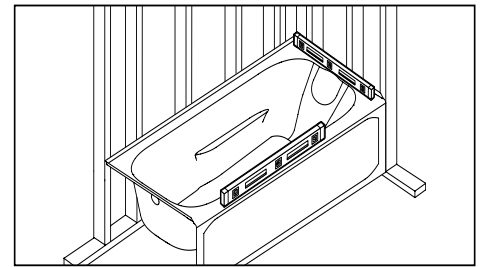

FIGURE 1. Check to assure bathtub is level.
- a. Trial fit bathtub in prepared alcove. With bathtub sitting flat on floor, check with level on top of bathtub (Fig 1).